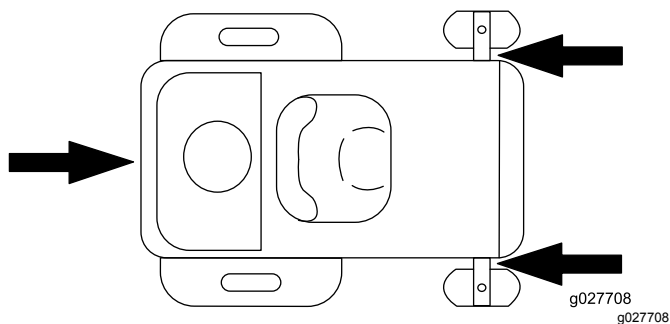

Figure 25
5. Tie down the machine near the front caster wheels and the rear bumper (Figure 25).